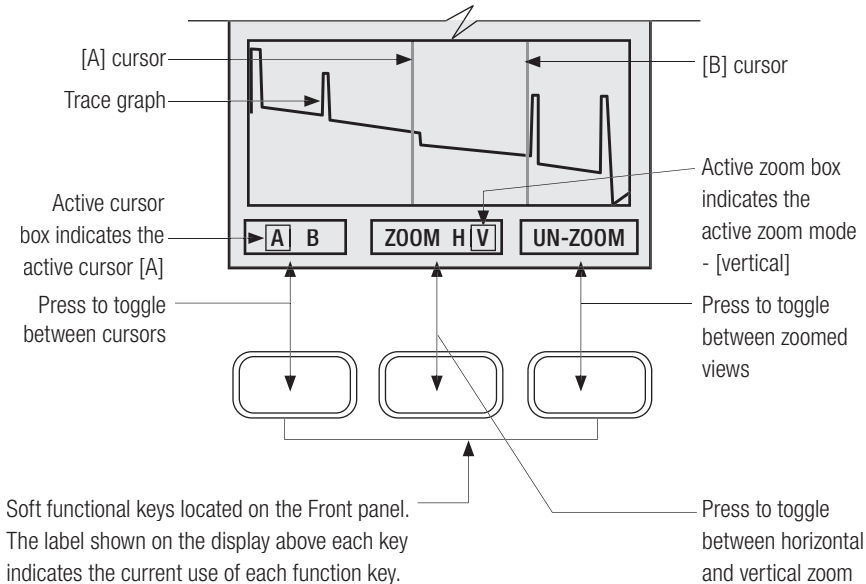

Figure 5-2. Zooming.
- 1 Press the [Zoom H/V] soft key to toggle between horizontal and vertical zoom modes (refer to Figure 5-2).